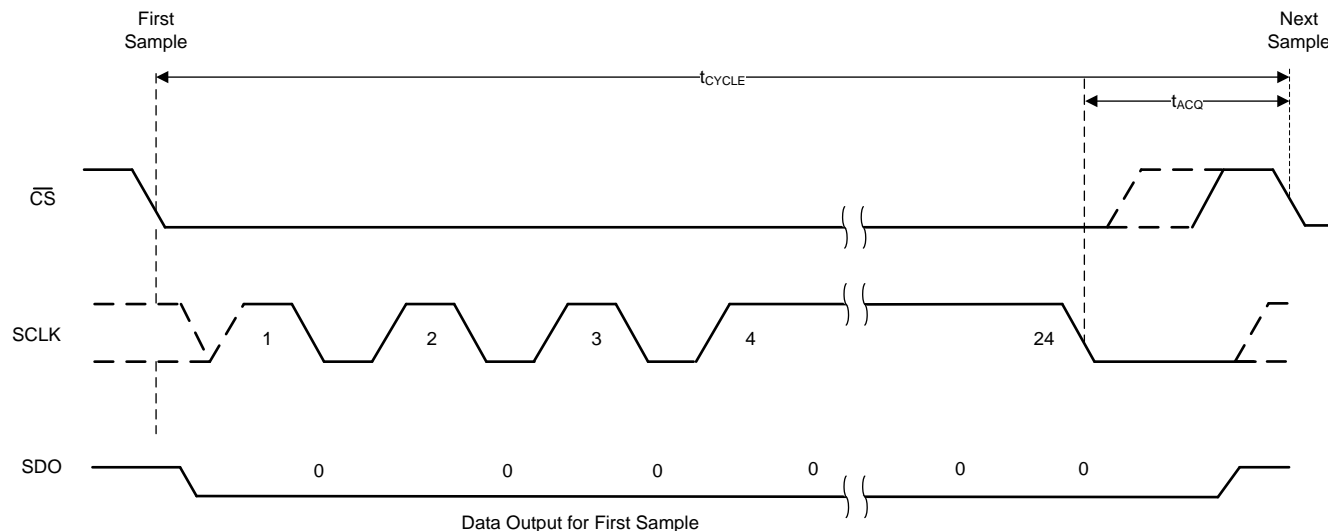
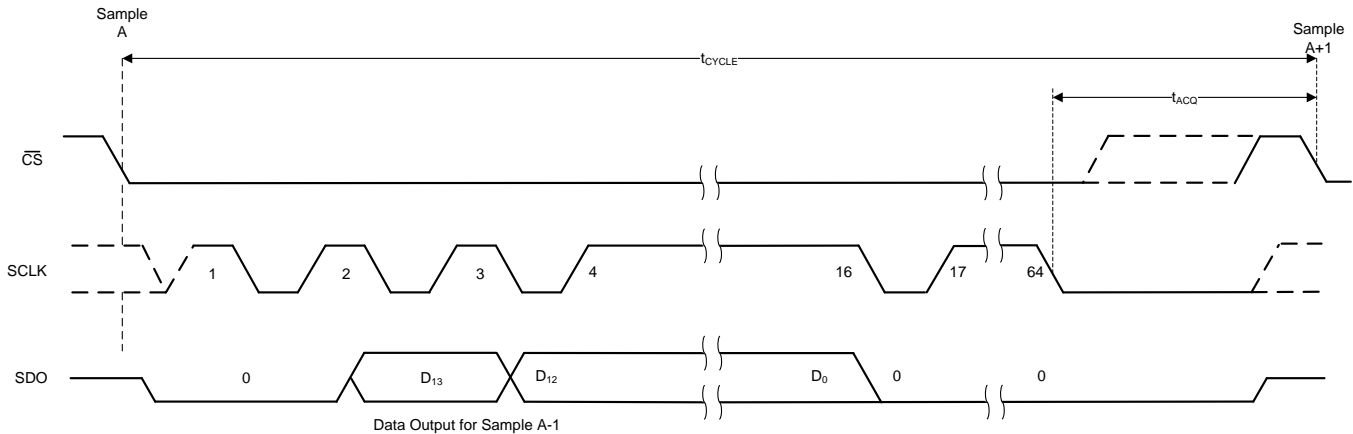

Figure 41. Timing for Offset Calibration on Power-Up
Figure 42. Timing for Offset Calibration During Normal Operation
The host controller must provide a serial transfer frame as described in Figure 41 or in Figure 42 to enter OFFCAL state.
On power-up, the host must provide 24 SCLKs in the first serial transfer to enter the OFFCAL state. The device provides 0's on SDO during offset calibration. For acquisition of the next sample, a minimum time of t_{ACQ} must be provided. If the host controller enters the OFFCAL state, but pulls the CS pin high before providing 24 SCLKs, then the offset calibration process is aborted and the device enters the ACQ state. Figure 41 and Table 2 provide the timing for offset calibration on power-up.
(1) In addition to the timing specifications of Figure 41 and Table 2, the timing specifications described in Figure 2 and the Timing Requirements table are also applicable for offset calibration on power-up.
During normal operation, the host must provide 64 SCLKs in the serial transfer frame to enter the OFFCAL state. The device provides the conversion result for the previous sample during the first 18 SCLKs and 0's on SDO for the rest of the SCLKs in the serial transfer frame. For acquisition of the next sample, a minimum time of t_{ACQ} must be provided. If the host controller enters the OFFCAL state, but pulls the \overline{CS} high before providing 64 SCLKs, then the offset calibration process is aborted and the device enters ACQ state. Figure 42 and Table 3 provide the timing for offset calibration during normal operation.
- (1) In addition to the timing specifications of Figure 42 and Table 3, the timing specifications described in Figure 2 and the Timing Requirements table are also applicable for offset calibration during normal operation.